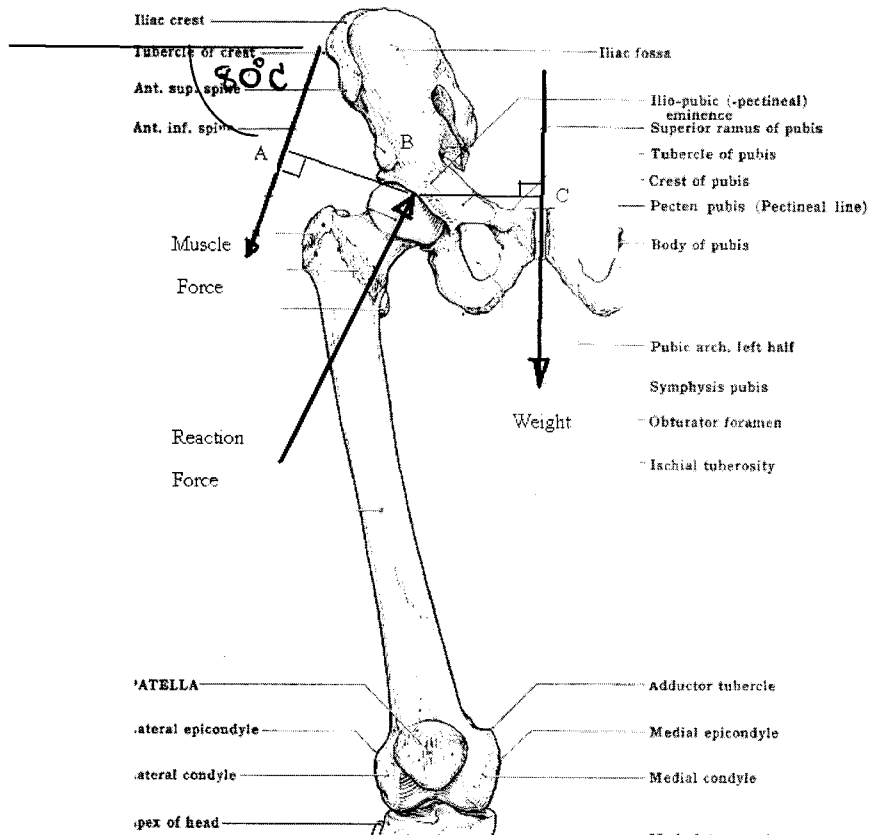

Figure 8: FBD of forces
3. According to figure 8, Given data :- joint supports 300 Newton of body weight and the force-arm (B-C) is 12 cm., the abductor muscles (muscle force) are producing 'x' Newton of tension with the angle of 80 degree from horizontal line and the distance between A and B is 10 cm. How much compression acts on the hip during two-legged standing and what is it direction? What is the magnitude of 'x' ? (12 points) [B is the fulcrum at hip joint.]